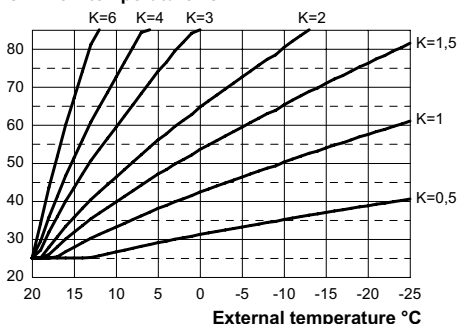
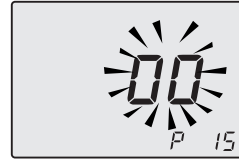

Fig. 7.19
Fig. 7.23
If the boiler is **EQUIPPED** with the remote control (optional) refer to Fig. 7.19. In this case K setting must be done from the remote control.
The K coefficients is a parameter that increases or reduces the boiler flow temperature when the outside temperature changes. When installing the external probe it is necessary to set this parameter based on the efficiency of the heating plant in order to optimise the flow temperature (Fig. 7.19). E.g. In order to have a flow temperature at the heating plant of 60°C with an external temperature of -5°C, set a K at 1.5 (sectioned line in Fig. 7.19).
- Using keys 15 or 16 it is possible to change the value of parameter 15 from a minimum of **01** to a maximum of **60** based on the selected bend of the K coefficient in Fig. 7.19 (the value read on the display corresponds to K coefficients decimal values). The writing **P15 - SEt** alternates on the display (Fig. 7.23).